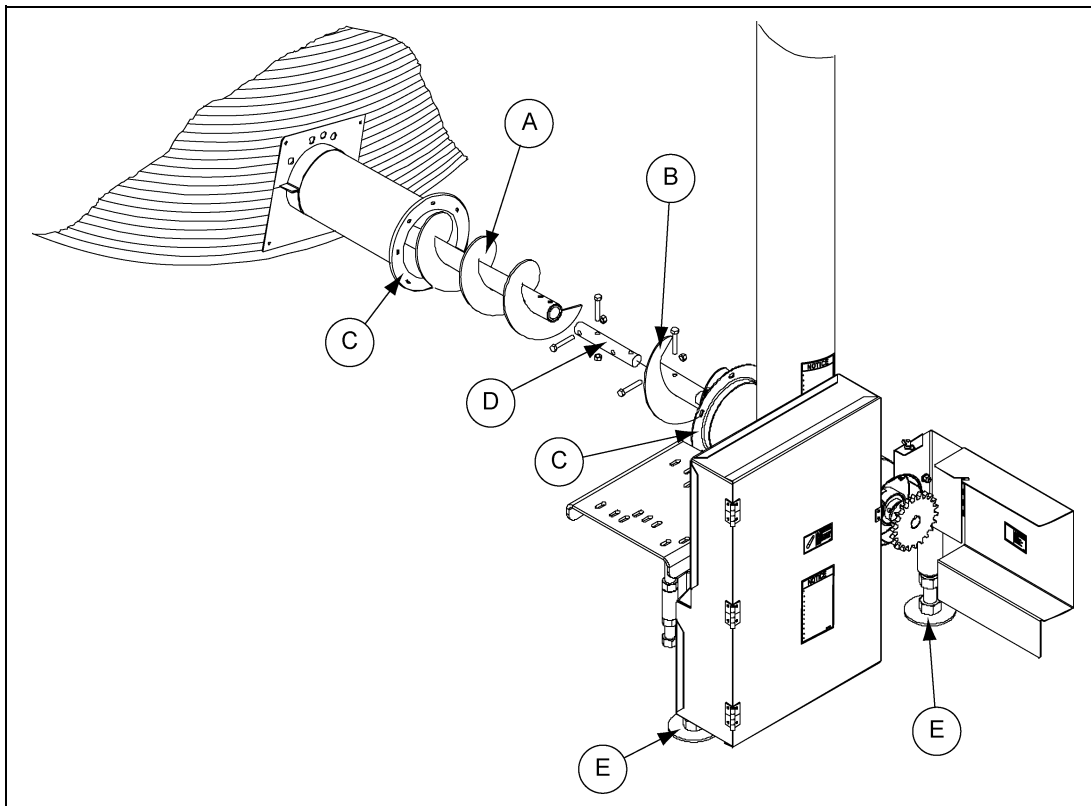
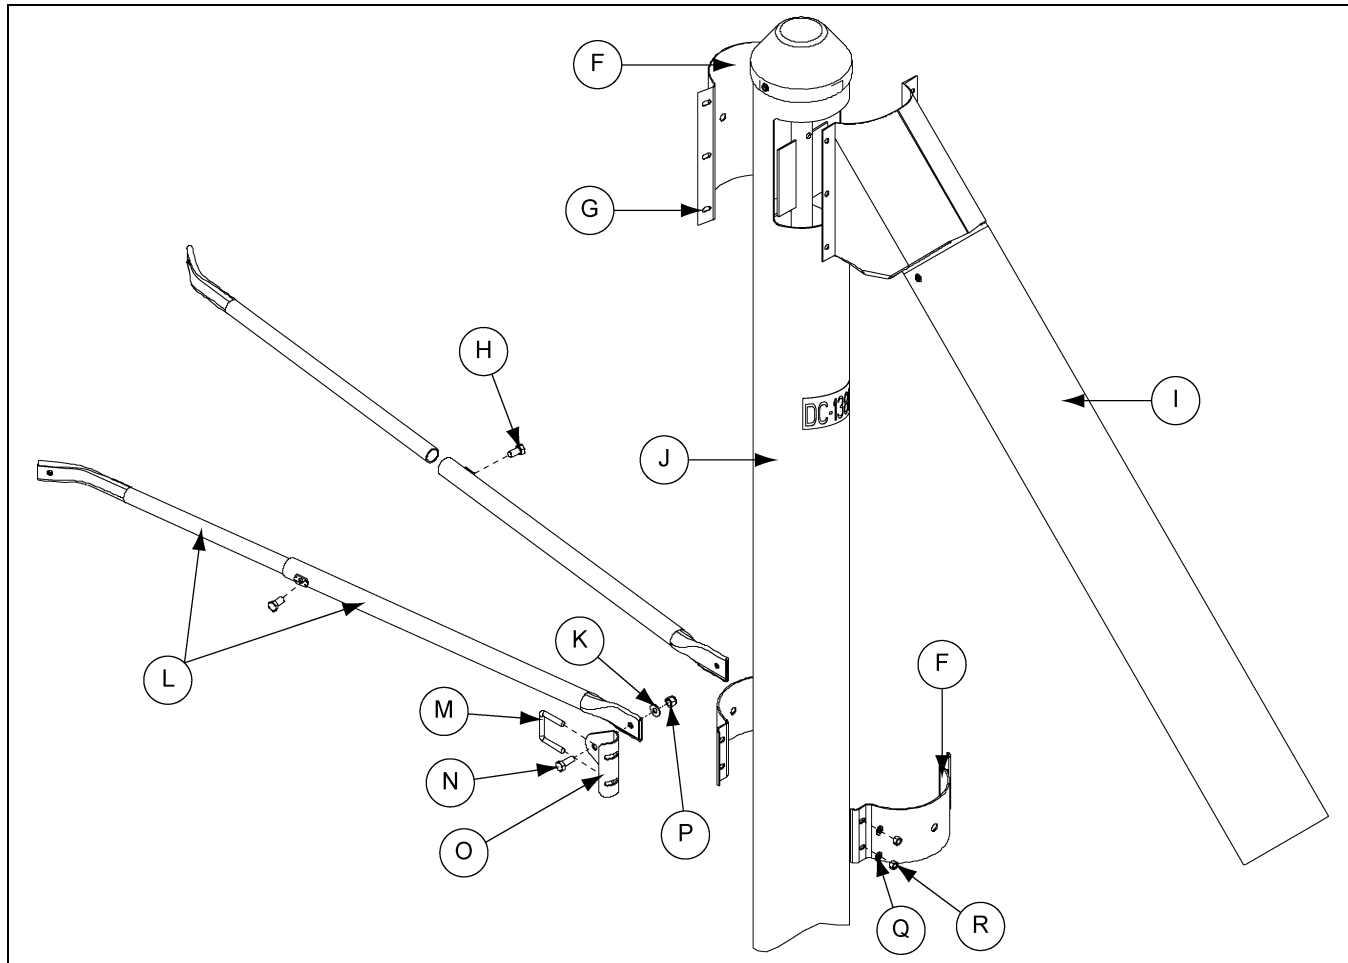

Figure 4A 8" Shown
Figure 4B
3. Slide bin unloading flight (A) into unloading tube. With vertical auger in upright position, attach flanges (C) together using 5/16" x 3/4" bolts with hex nuts. *(See Figure 4A below and Figure 4B on Page 16.)*
4. Adjust stands (E) so they hold the weight of the vertical auger. *(See Figure 4A.)*
5. Using the same U-bolts (M) and nuts (R), attach ears and half band (F) to vertical tube at the same. For maximum stability, locate the bands on the upper half of the tube. (See Figure 4B.)
6. Bolt telescoping tubes (L) to the ears (O) using two (2) 3/8" x 1" bolts (N) and nylock nuts (P). (See Figure 4B.)